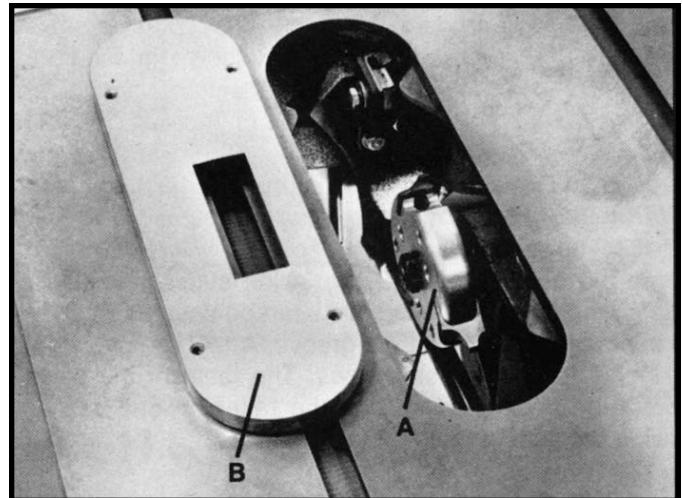
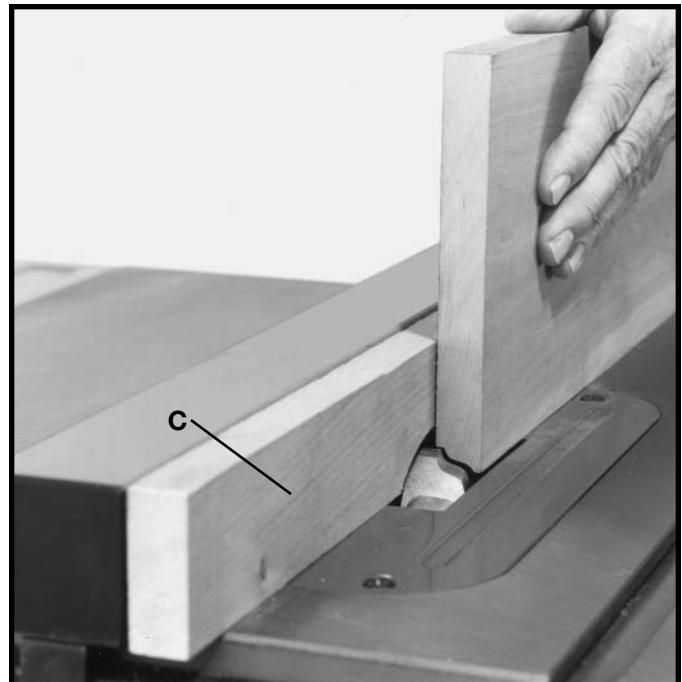

Fig. 53
Fig. 54
The moulding cutterhead (A) Fig. 53, is assembled to the saw arbor as shown.
**WARNING** THE OUTSIDE ARBOR FLANGE CAN NOT BE USED WITH THE MOULDING CUTTERHEAD, TIGHTEN THE ARBOR NUT AGAINST THE CUTTERHEAD BODY. DO NOT LOSE THE OUTSIDE ARBOR FLANGE, FOR IT WILL BE NEEDED WHEN REATTACHING A BLADE TO THE SAW ARBOR. ALSO, THE ACCESSORY MOULDING CUTTERHEAD TABLE INSERT (B), MUST BE USED IN PLACE OF THE STANDARD TABLE INSERT.
**CAUTION** It is necessary when using the moulding cutterhead to add wood-facing (C) to the face of the rip fence, as shown in Fig. 54. The wood-facing is attached to the fence with wood screws through the holes provided in the fence. 3/4 inch stock is suitable for most work although an occasional job may require 1 inch facing.
Position the wood-facing over the cutterhead with the cutterhead below the surface of the table. Turn the saw on and raise the cutterhead. The cutterhead will cut its own groove in the wood-facing. Fig. 54, shows a typical moulding operation.